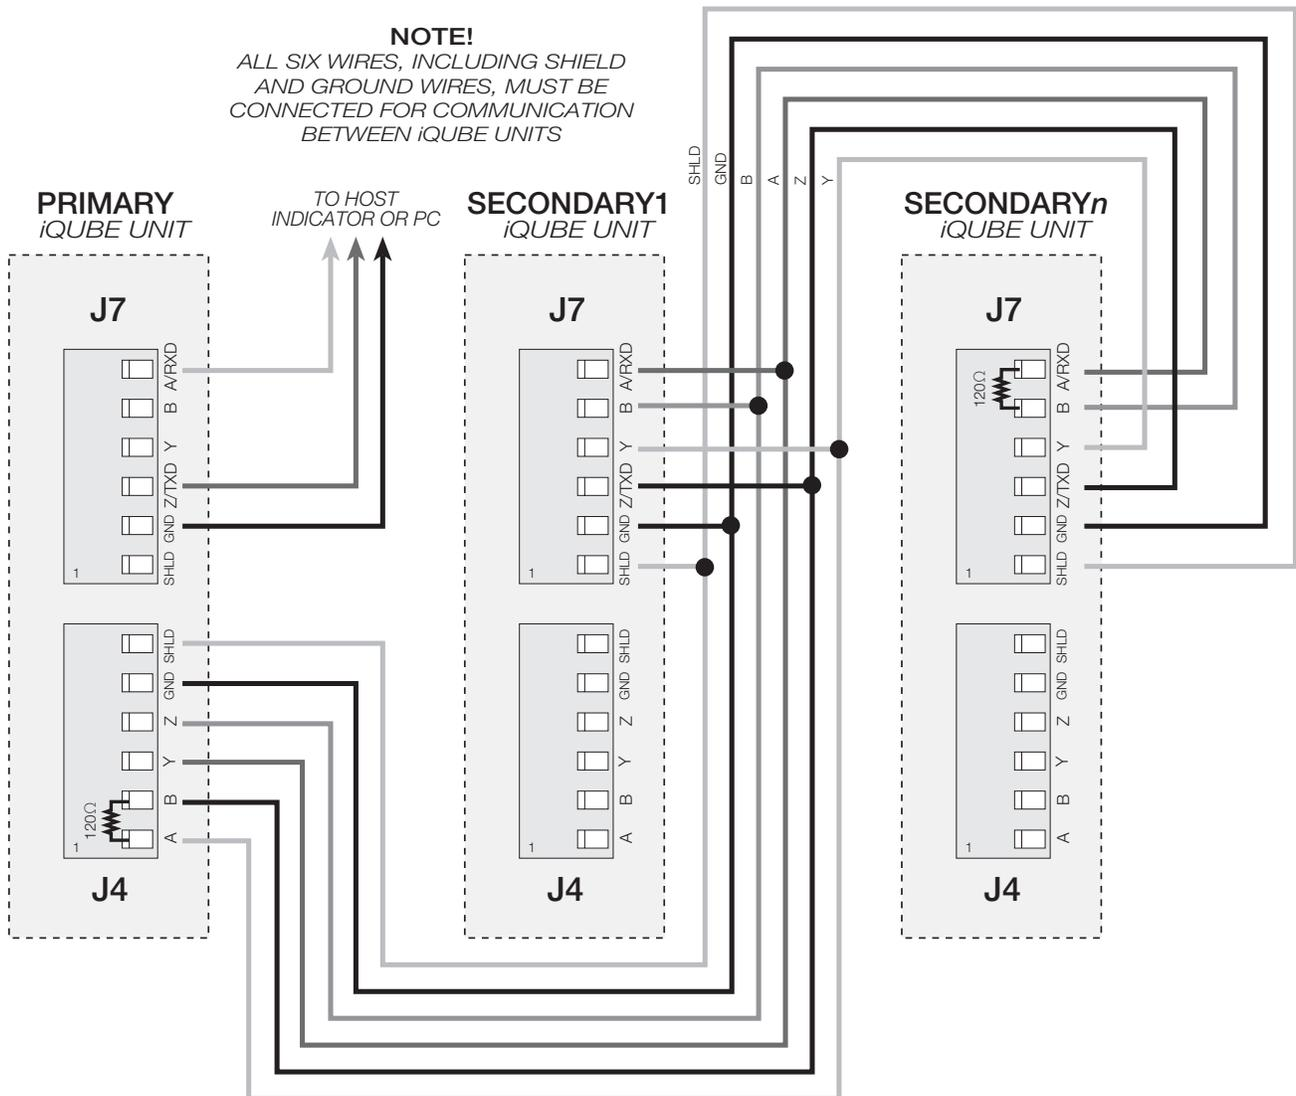

Figure 2-3. Primary-to-Secondary Communications Wiring
Up to three *iQUBE* junction boxes can be configured as secondary units controlled by a primary *iQUBE* unit. Figure 2-3 on page 6 shows the primary-to-secondary wiring for multiple *iQUBE* units. Successive secondary units are wired in parallel (A to A, B to B, and so on) as shown in Figure 2-3.
- 120Ω termination resistors (included in parts kit) must be installed across the A and B terminals on the J4 connector of the primary unit and between the A and B terminals on the J7 connector of the *last* secondary unit (see Figure 2-3 on page 6).